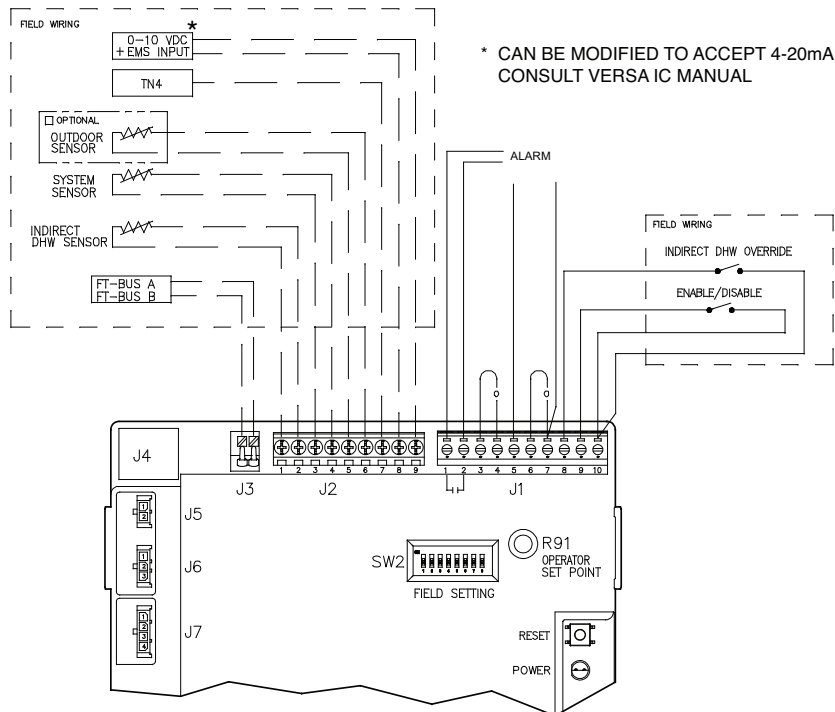

Fig. 18: XFyre Single Heater Control
Connect the Enable/Disable terminals to the PIM (shown in Fig. 18). Alternately, any dry contact closure (including a remote thermostat) across these terminals will enable the XFyre unit to run. Caution should be used to ensure neither of the terminals becomes connected to ground.
2. To enable this remote control function, set DIP switch 5 to the UP position on the PIM. DIP switch 5 Toggles between an EMS (UP) signal or a demand signal from the VERSA (DOWN). DIP switch 2 on the PIM toggles between a Direct Drive (UP) input and a Target Temperature (DOWN) setpoint.
4. Connect an Energy Management system or other auxiliary control signal to the terminals marked 0-10V (+/-) on the PIM (see Fig. 18). Caution should be used to ensure that the +0-10V connection does not create a short to ground.
3. Route the FT_BUS wires from the front along the top rails and out the back of the cabinets (as shown in Fig. 18).
3. Connect the system supply sensor to terminals 3 and 4 on the J2 connector located on the Master PIM (See Fig. 18).
4. Connect the Outdoor sensor (if used) to terminals 5 and 6 on the J2 connector located on the Master PIM (See Fig. 18).
5. Connect the Enable/Disable wiring to terminals 9 and 10 on the J1 connector located on the Master PIM (See Fig. 18). This connection must be provided through dry contacts closure.